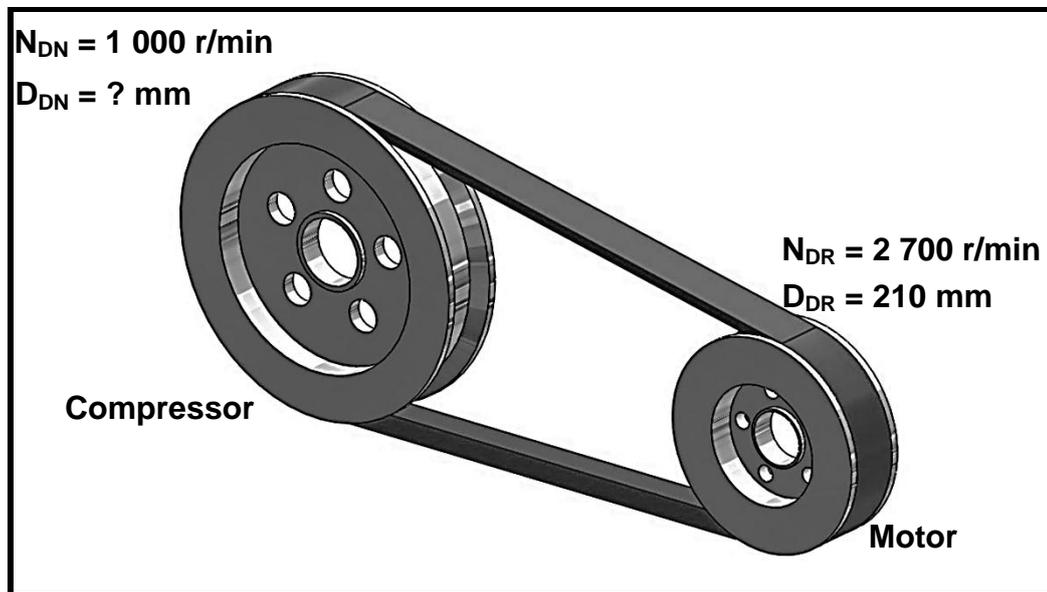

FIGURE 11.4
- 11.4 FIGURE 11.4 below shows a V-belt drive system of a compressor. The driver pulley of the belt drive system rotates at 2 700 r/min and has a diameter of 210 mm. The compressor shaft must rotate at 1 000 r/min.